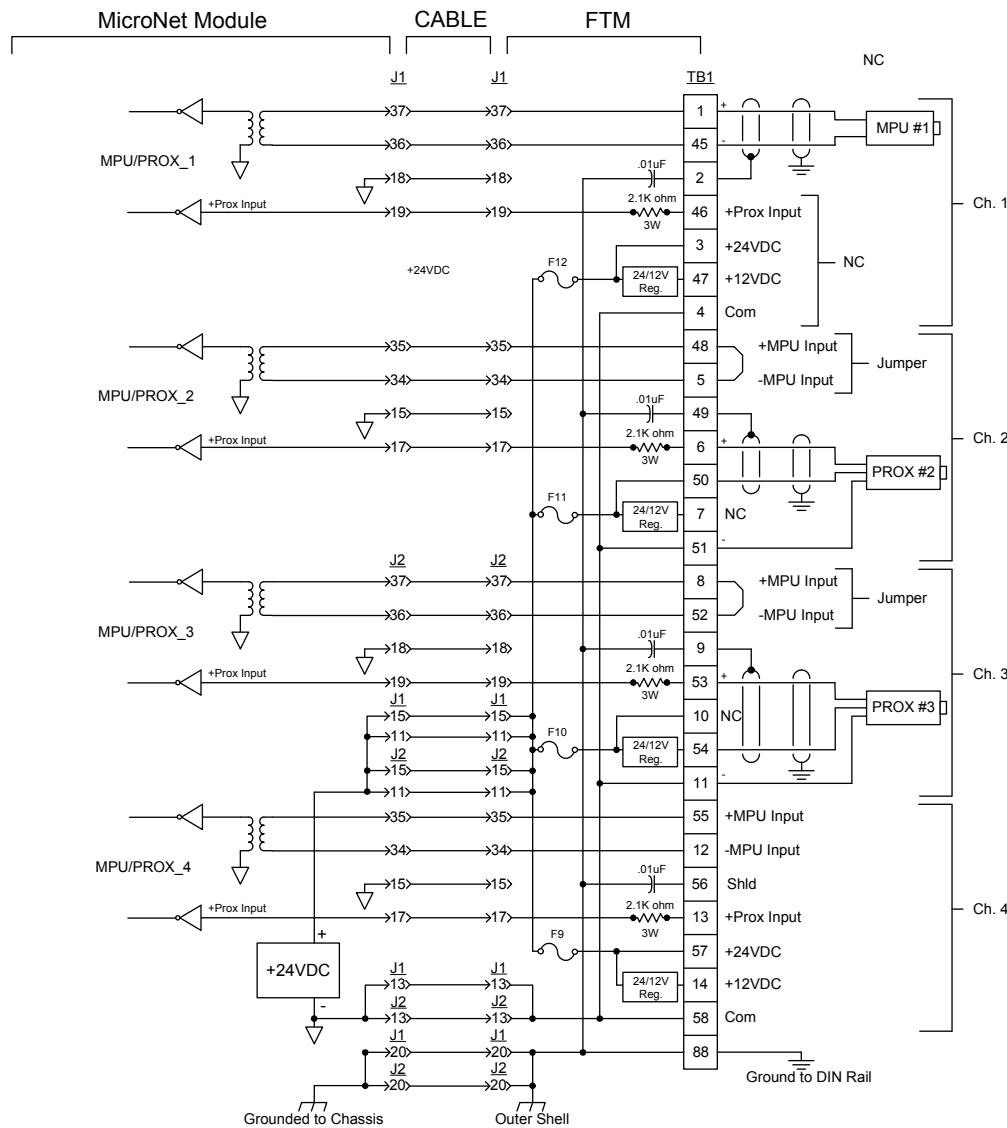

Figure 4-6. Example Speed Probe Circuitry and Wiring Diagram
A passive MPU provides a frequency output signal corresponding to turbine speed by sensing the movement of a gear's teeth past the MPU's pole piece. The closer the MPU's pole piece is to a gear's teeth and the faster the gear turns the higher a passive MPU's output voltage amplitude will be. The 505DE control must sense an MPU voltage of 1 to 25 Vrms for proper operation. With proper MPU, gear size, and MPU-to-gear clearance, speed measurement should be capable down to 100 Hz. Standard MPU clearance is recommended to be 0.25 to 1.02 mm (0.010 to 0.040 inch) from tooth face to pole piece. For information on selecting the correct MPU or gear size, please refer to Woodward manual 82510. See Figure 4-6 for wiring schematic.
A proximity (active) probe may be used to sense very low speeds. With a proximity probe, speed can be sensed down to 0.5 Hz. The 505DE control can be programmed to turn on or off a turbine turning gear using a relay output programmed as a speed switch. See Figure 4-6 for proximity probe wiring schematic.
- Refer to Figure 4-6 for Speed Sensor wiring connections on the MPU / Analog FTM.